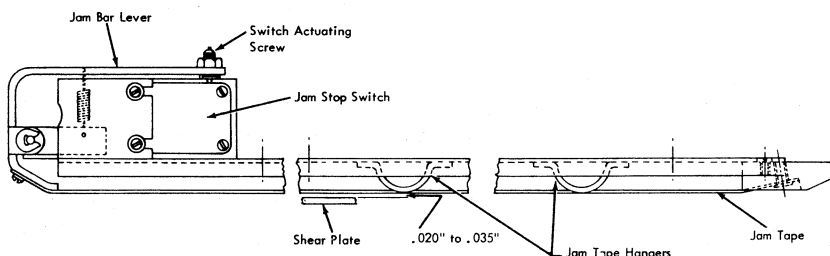

Figure 4-32. Jam Bar
1. Position jam bar, by means of its mounting brackets, for  $.020''$  to  $.035''$  clearance between jam tape hangers and shear plate (Figure 4-32).